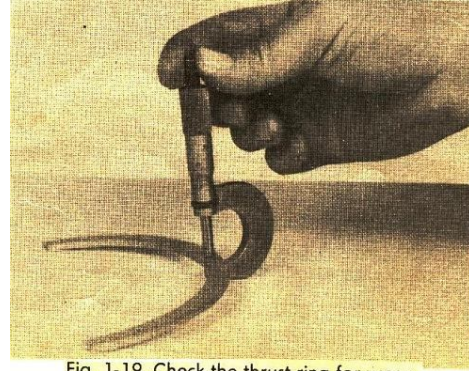

Fig. 1-19. Check the thrust ring for wear
- a. The best measurement of wear on the crank shaft thrust rings is the crankshaft end clearance check. See “Engine Assembly” Group (M) & Table 1-1 (9-10), Fig.1-19.